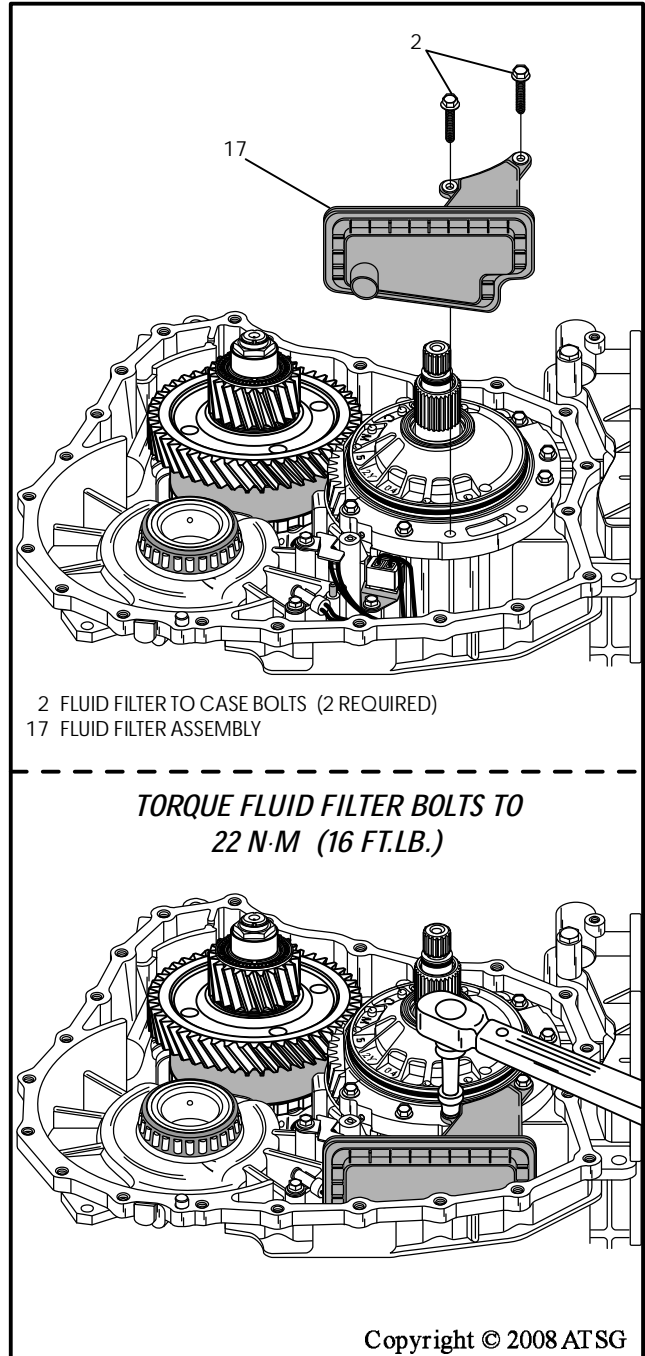

Figure 225
32. Install new fluid filter with the two retaining bolts, as shown in Figure 225.
33. Torque the two fluid filter retaining bolts to; 22 N·m (16 ft.lb.), also shown in Figure 225.